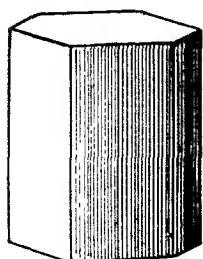
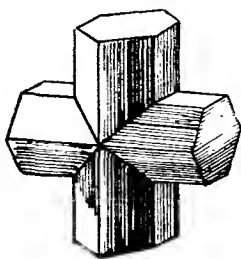

Figure 99
Figure 100
**Twins.** Surely there are no twins among minerals! Yes, indeed there are and many of them are just as firmly joined together as were the famous "Siamese twins." Twins are sure to be met by every collector who does much field collecting or who visits a good museum. In the mineral staurolite, twins like figures 100, 101, are even commoner than single crystals, figure 99. Twins of calcite, page 149, and of feldspar, page 222, abound in some localities and are of many different forms.